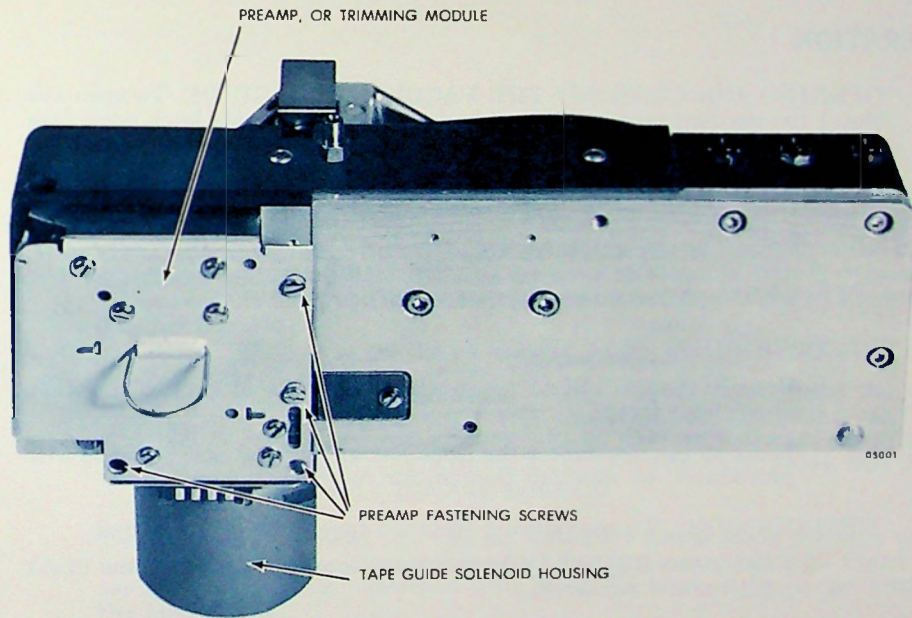

Figure 3. Rear of Mark Ten Video Head Assembly
- Loosen the four preamplifier module fastening screws (see *Figure 3*) and carefully remove the preamplifier module.
- b. Unfasten the four preamplifier retaining screws (see *Figure 3*).